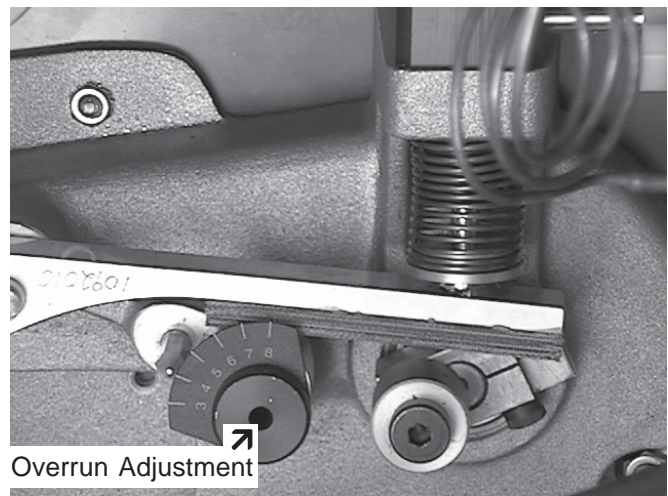

Figure 27. Overrun Adjustment
- C. On air compressor side of pump, locate the long/slender piston rocking arm. The rocking arm downward travel is limited by a stationary cam. On the face of the cam there is an overrun setting indicator plate numbered 3 thru 8 and an adjustment knob. Figure 27.